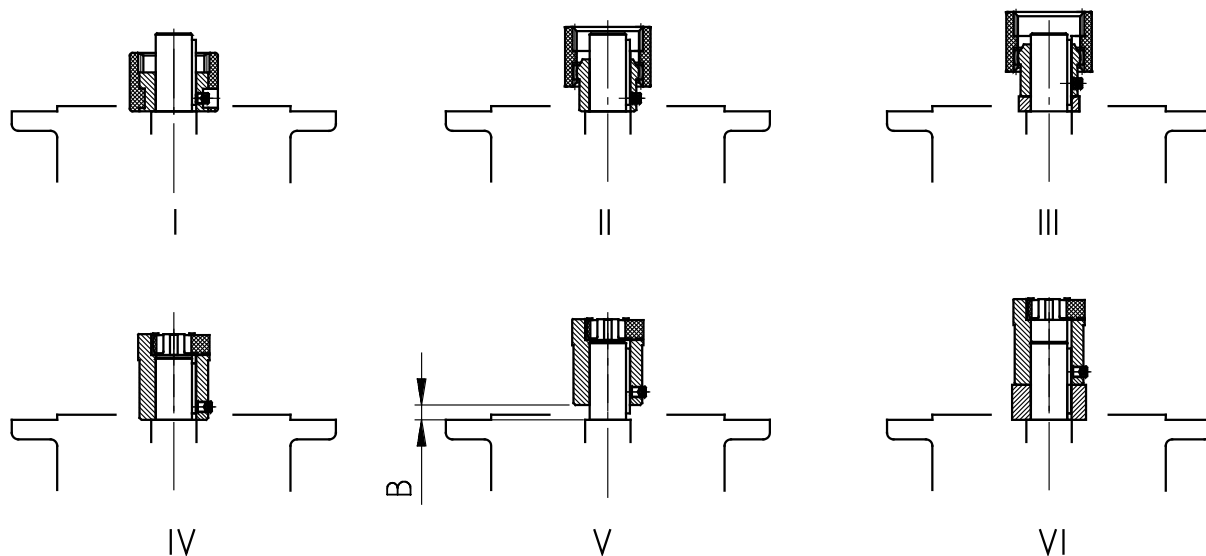

Figure 17: Fitting the coupling onto the motor shaft - various types of coupling
3. Tighten the coupling hub on the motor shaft in accordance with the motor manufacturer's instructions until it touches the collar. With motor sizes 90, 160, 180 and 225, any spacer bushes may need to be positioned between the coupling sleeve and the collar. With standard helical gear units, dimension B between the coupling sleeve and the collar must be observed (see "Figure 17"). Certain **NEMA adapters** require adjustment of the coupling in accordance with the specifications indicated on the adhesive plate.